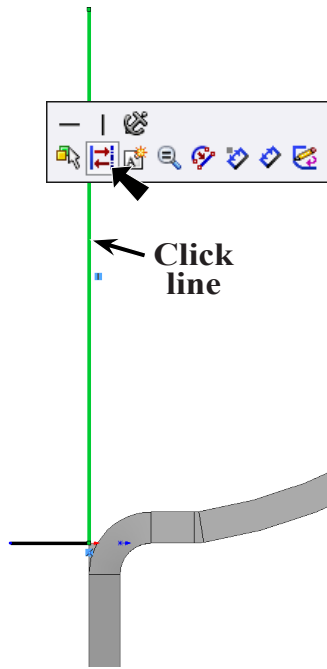
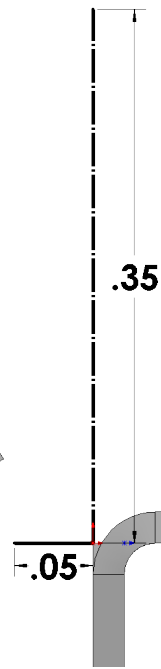

Fig. 20
Fig. 21
Step 10. Click the **vertical line** and click **Construction Geometry**  on the Context toolbar, **Fig. 20**.
Step 11. Click **Smart Dimension**  (S) on the Sketch toolbar.
Step 12. Dimension lines **.05** and **.35**, **Fig. 21**.